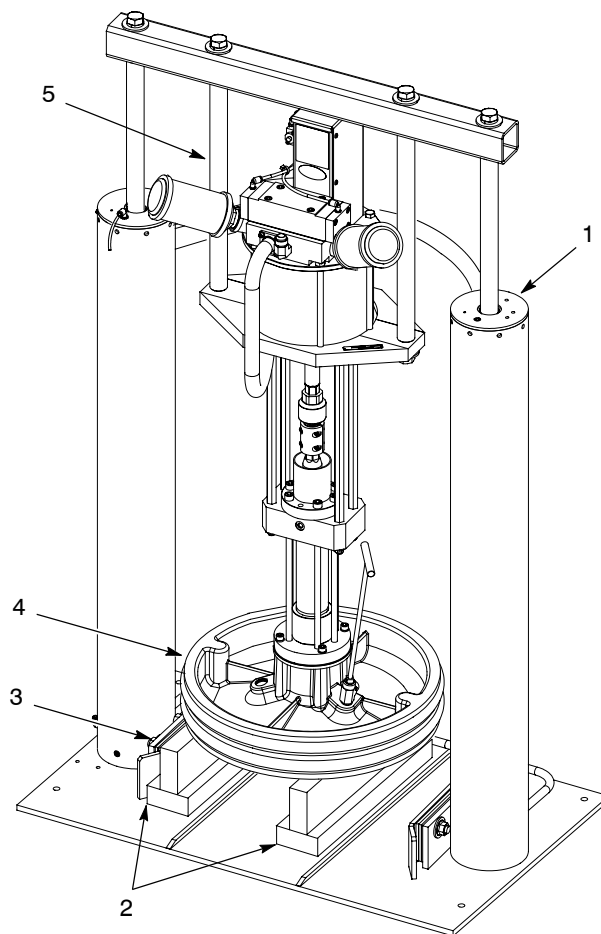

Figure 1 Blocking the Follower Plate
1. See Figure 1. Use blocks (2) to block the follower plate (4) high enough to keep it from contacting the drum centering shoes (3). Make sure that the follower plate/air motor assembly is secure to prevent it from tipping.
3. Remove any device or bracket that is installed to the top of the cylinder heads (1) and mounting rods (5).